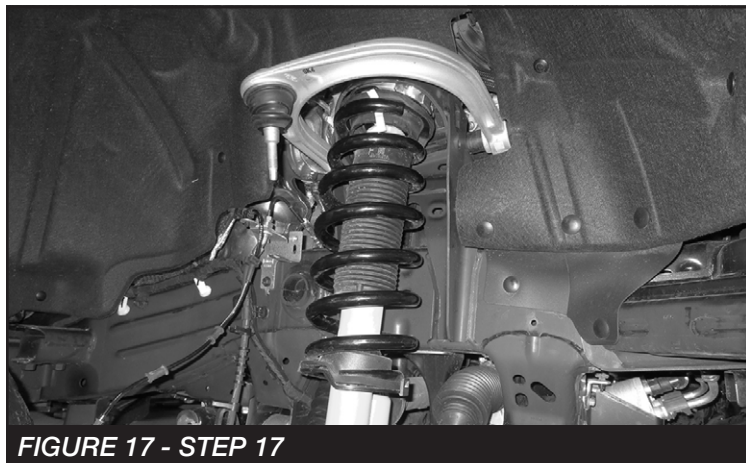

FIGURE 17 - STEP 17
17. Install the strut assembly into the vehicle using the supplied 3/8" nuts and washers for the upper mount and the factory hardware for the lower mount. Torque the upper nuts to 30 ft-lbs. and the lower 65 ft-lbs. **SEE FIGURE 17**